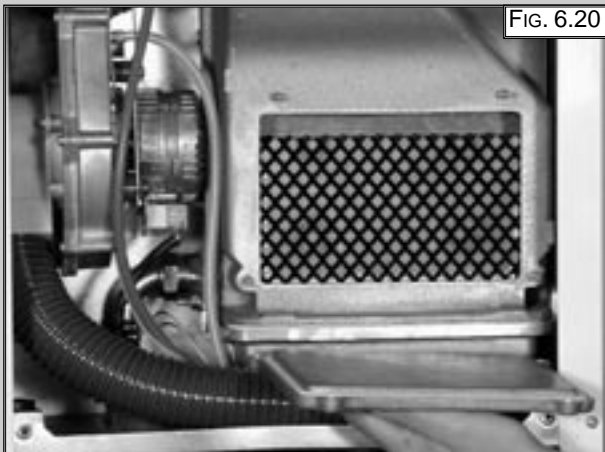

FIG. 6.20
2. Remove the inspection panel (FIG. 6.20).